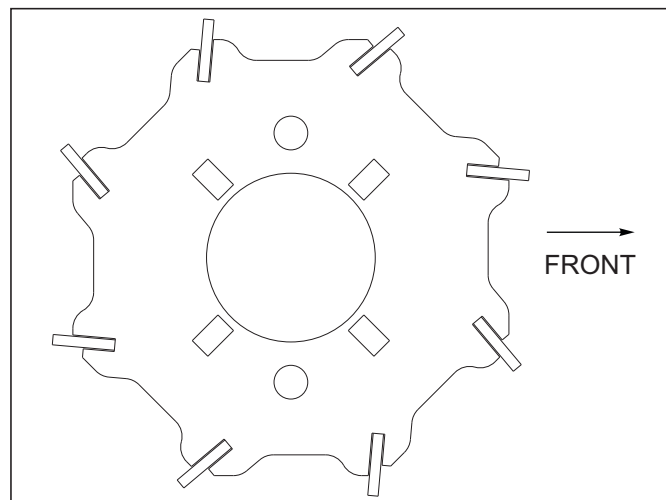

Figure 3-32: Flat Reel
8. Attach flat bar reels with angled blades as shown See Figure 3-32.